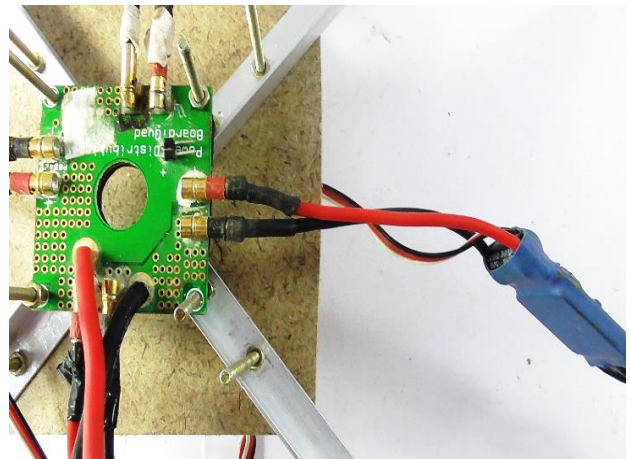

Fig.3.2
- Then, connect the ESC to the power distribution board. Maintain the polarity (i.e. positive to positive, negative to negative) Refer Fig.3.2.